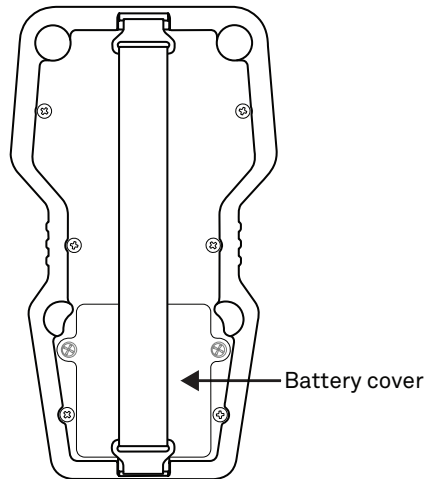

Figure 23 Battery cover
1. Turn the TEMPOS controller over and locate the battery cover in the lower section of the back panel (Figure 23).